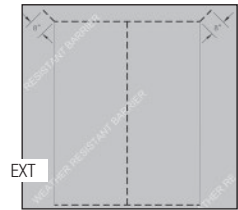

FIG. 2
- F) Make an "I-Cut" in the weather-resistant barrier (WRB). Begin with a horizontal cut along the bottom and the top of the rough opening. Then make a vertical cut in the center from top to bottom. (Fig. 2)